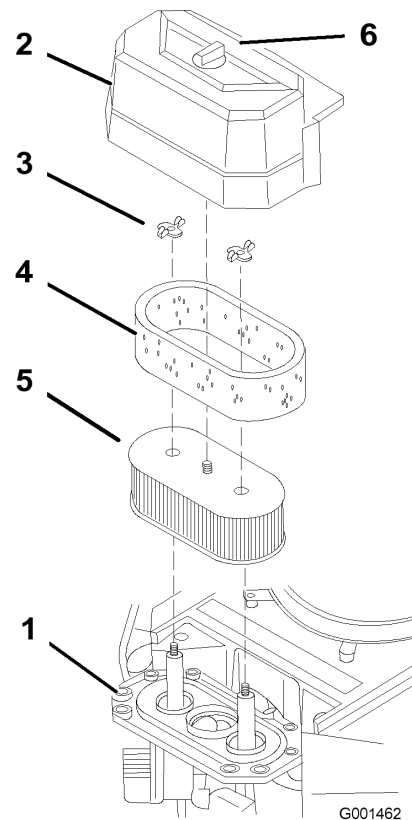

Figure 24
3. Clean around the air cleaner to prevent dirt from getting into the engine and causing damage (Figure 24).
4. Unscrew the cover knob and remove the air cleaner cover (Figure 24).
5. Remove the 2 wing nuts and remove the air cleaner assembly (Figure 24).
6. Carefully pull the foam element off the paper element (Figure 24).
1. Do not clean the paper filter. Replace it after 200 operating hours (Figure 24).
1. Carefully slide the foam element onto the paper air cleaner element (Figure 24).
2. Place the air cleaner assembly onto the air cleaner base and secure it with the 2 wing nuts (Figure 24).
3. Place the air cleaner cover into position and tighten the cover knob (Figure 24).